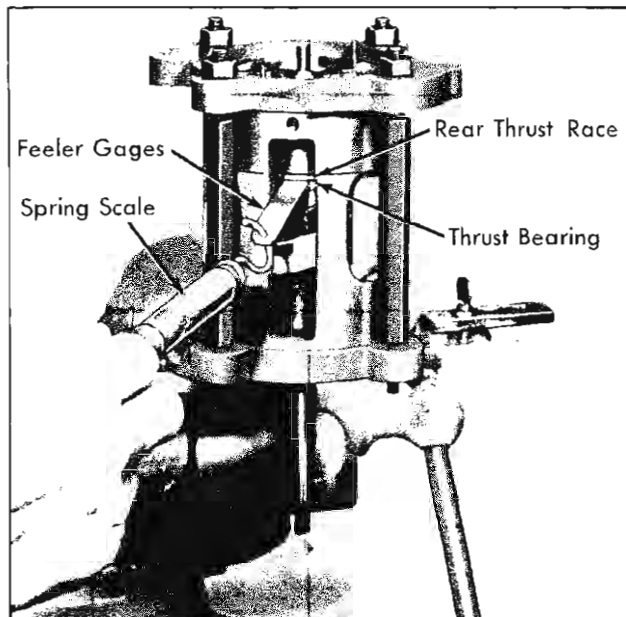

Fig. 46—Checking Clearance Between Rear Thrust Bearing and Outer Thrust Race
14. The next gauging operation is to determine the space between the REAR thrust bearing and the upper (outer) rear thrust race. Use a suitable combination of feeler gauge leaves so that 4 to 8 oz. of force is required to pull gauge free (fig. 46). Select a numbered thrust race to correspond to this feeler gauge reading and place this race in parts tray in the rear thrust race compartment.